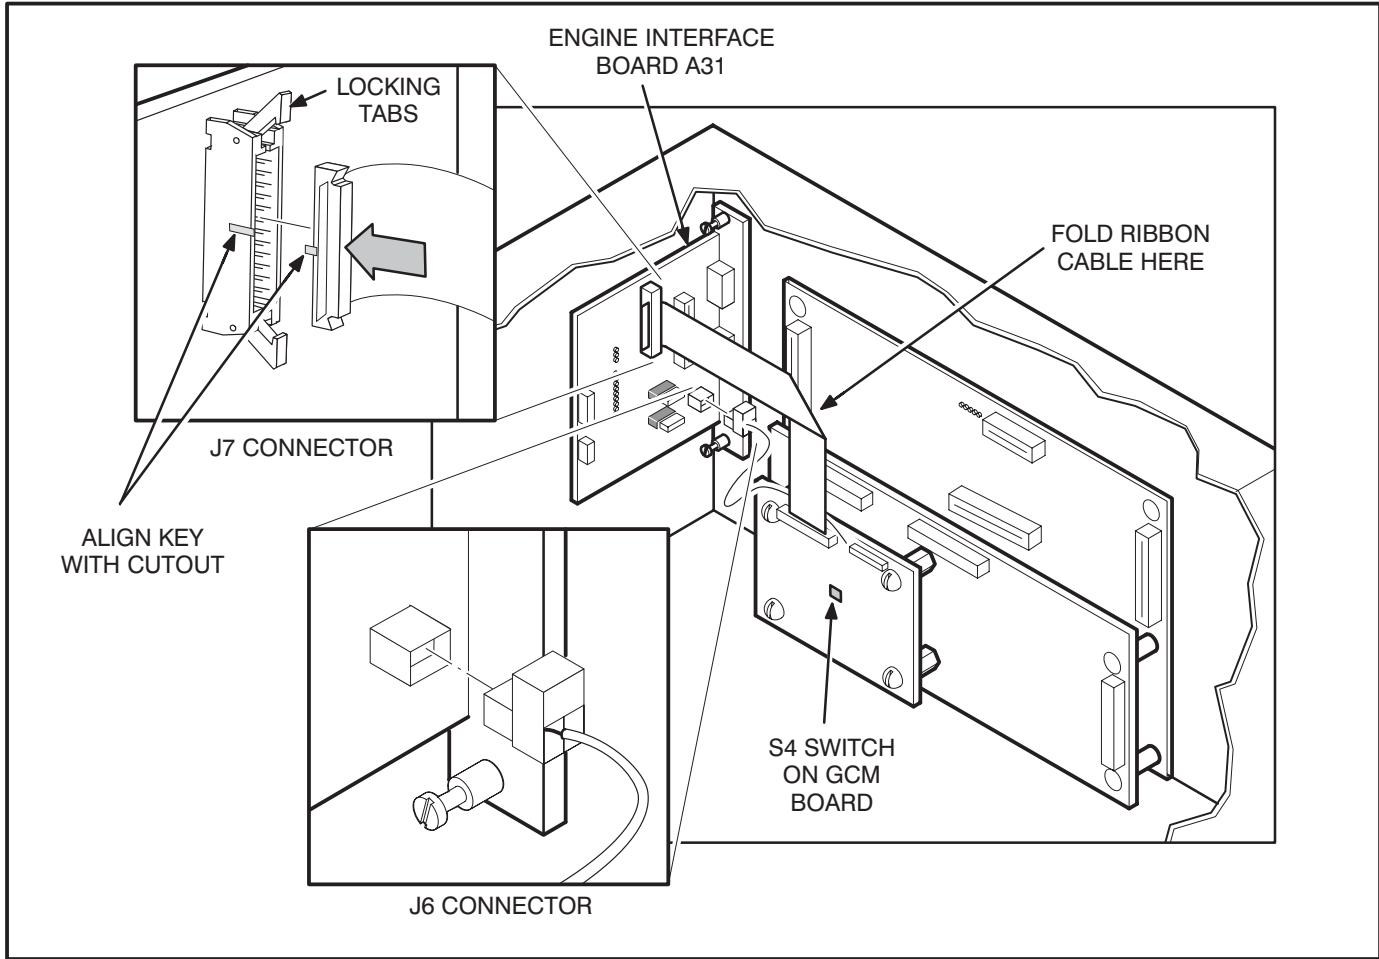

FIGURE 5-6. INSTALLING J6 AND J7 CONNECTORS
8. Orient the J6 harness connector as shown in Figure 5-6. Push the J6 plug securely into the connector on the engine interface board.
9. Spread locking tabs apart on the J7 connector. Fold the ribbon cable, as shown in Figure 5-6, align key on plug with socket cutout. Insert the J7 harness plug into the J7 connector on the engine interface board. Press in on the harness connector, at the location indicated by the arrow, until the locking tabs lock into place.
10. Set the S4 switch on the GCM board to **24V** for a 24V-battery system or **12V** for a 12V-battery system (Figure 5-6).
Refer to Table 5-2 and Figures 5-6 and 5-7.